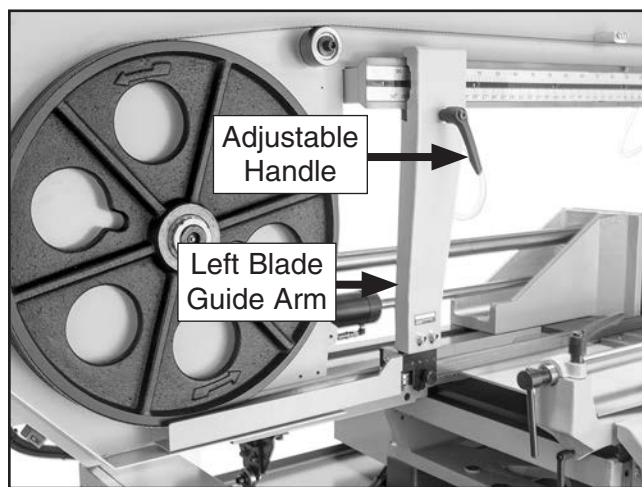

Figure 36. Left blade guide adjustable handle.
5. Loosen adjustable handle on left blade guide arm and move arm as far left as it will go (see **Figure 36**). Tighten adjustable handle to secure arm position.